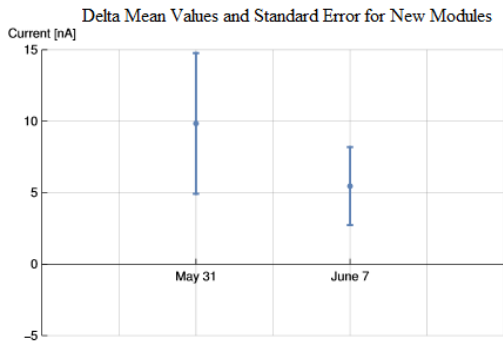
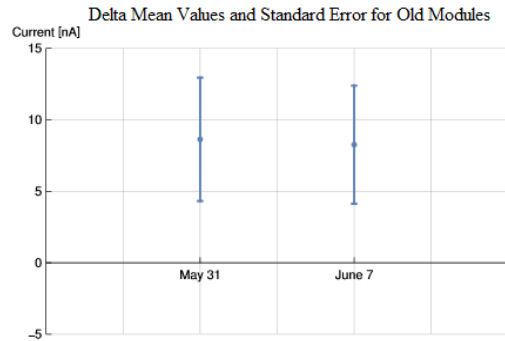

Fig. 3 Change of mean values and standard error from one week to the next, for five new modules.
Fig. 4 Change of mean values and standard error from one week to the next, for three old modules.
- ★ Delta mean values and standard error of five new modules (Fig 3) and delta mean values and standard error of three old modules (Fig 4).